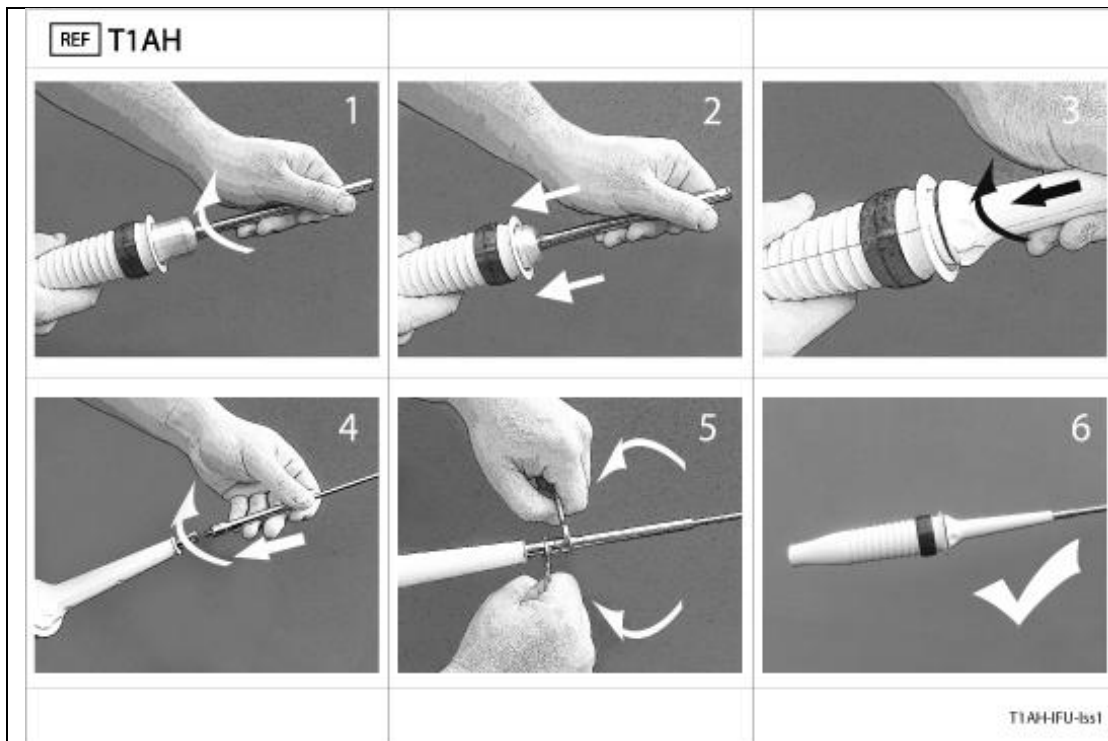

Figure 10 – Assembling Cement Transducer into Axial Grip and fitting Probe
- Fit the Transducer into the Handpiece. Rotate and click into place – ensure that it is securely connected. See (1) & (2) in Figure 10 below.
- Slide the Handpiece sleeve over the Transducer horn. Locate the lugs at the base of the sleeve into the grip Handpiece and twist / click into place. See (3) below.
- Using supplied spanners, attach the Probe to the Transducer (4) & (5) below.